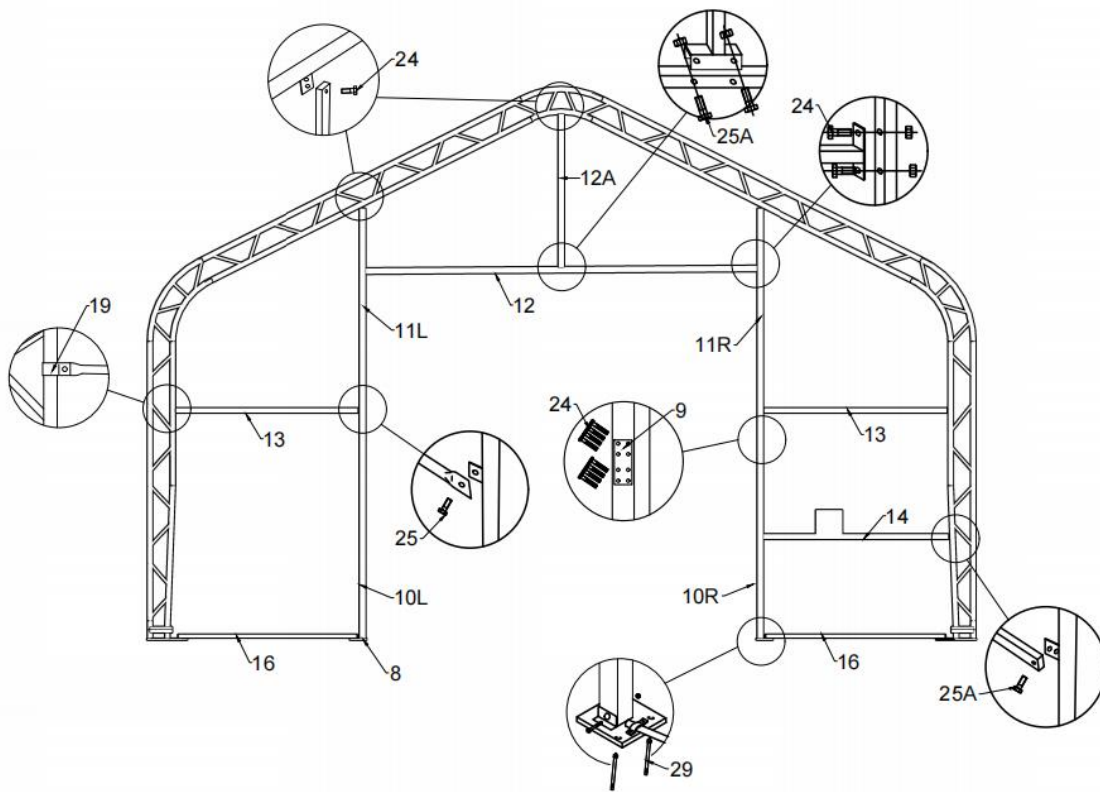

Figure 7: Front and Back door
1. Figure 7 shows to assemble the door frame.